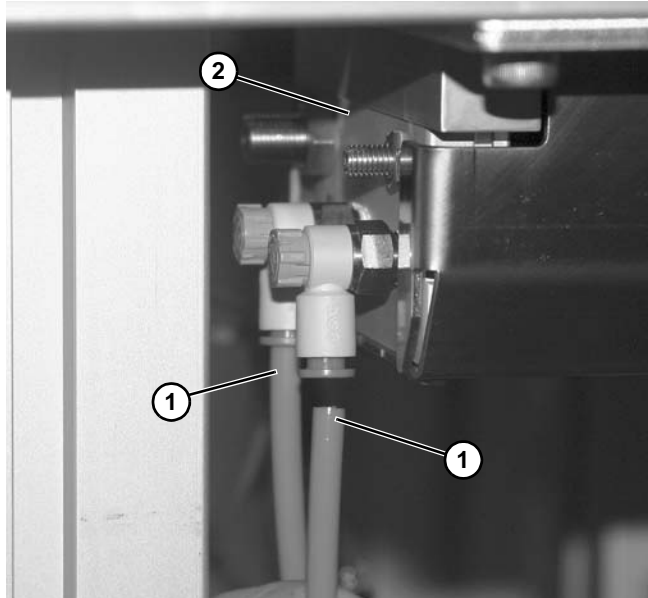

Figure 156
1. Disconnect both hoses (Figure 156, item 1) from fittings on pallet pusher assembly (Figure 156, item 2).